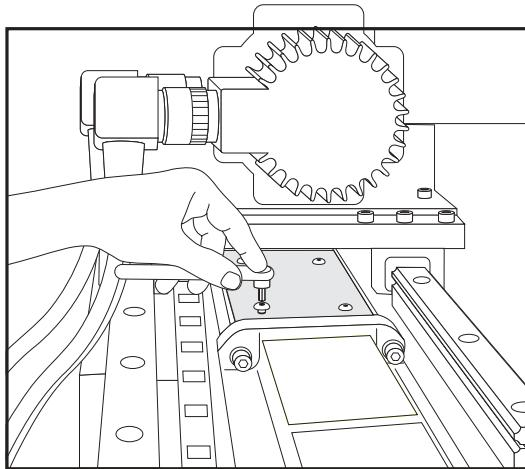

Figure 3.12-2
4. Remove the motor housing cover. (See figure 3.12-2.)